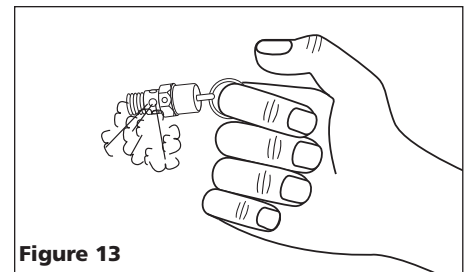

Figure 13
- b. Wearing safety glasses, pull the ring on the safety valve to release pressure from compressor tank. Protect yourself from fast-moving air being released; do not allow fast-moving air to be directed toward your face (See Figure 13).